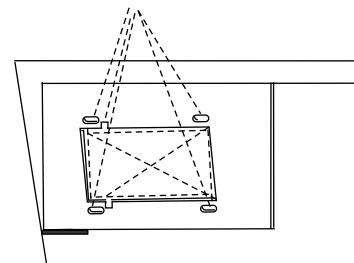

Figure 1
Step 1. Paddle Handle. Using a pair of scissors or sharp knife, cut an "X" into fabric from corner to corner of door plate. Using the door plate as a template; cut fabric off to edges of square shape in door plate. Cut slits in fabric for screw holes and notches in door plate. Place paddle handle (Item 1) from the outside of the door through square hole in the door plate. Place #10 x 1/2" screws (Item 4) through paddle handle, slits in fabric and holes in door plate. Secure with #10 lock nuts (Item 3). Then screw inside door knob (Item 2) into hole on inside of paddle handle. Repeat for the other side. See figure 1.